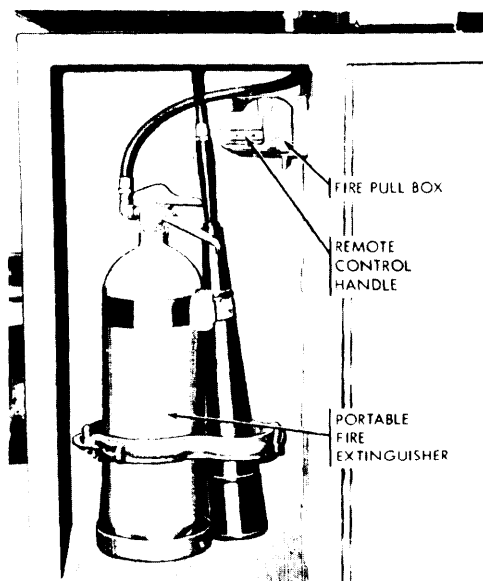

Figure 2-5. Fire extinguisher-system controls.
b. The remote control handle (fig 2-5) is located in the fire extinguisher niche. This handle is provided to operate the system when the control head locking pin and lever is not accessible. This handle is pulled out to operate.
(1) Connect the static ground lines to the vehicle, aircraft, or equipment to be serviced (pars 2- 15).
(2) Remove the portable 15-pound fire extinguisher (fig 2-5) and take it to the point of operation.
(3) Make sure all manually operated valves are closed. On the M131A4C and M131A5C semitrailer, set the 3-way flow valve in position No. 1 (the operating handle pushed inward as far as possible). Close rate-of-flow selector valve. If equipped with a read-out rate-of-flow selector dial, set the selector knob at zero. This is a must when the semitrailer is in transit or after completing operations.
(4) To prevent collapse of the tank, always open the manhole fill cover of any compartment to be filled or emptied. All semitrailers can be either top or bottom loaded. Bottom loading is the preferred method.
(5) To prevent overheating of the engine, the engine compartment door must be kept open during operation unless the compartment is sufficiently ventilated,
(6) Open only the valves required to perform a specific operation; all other valves must remain closed. Close all valves after completing the operation.